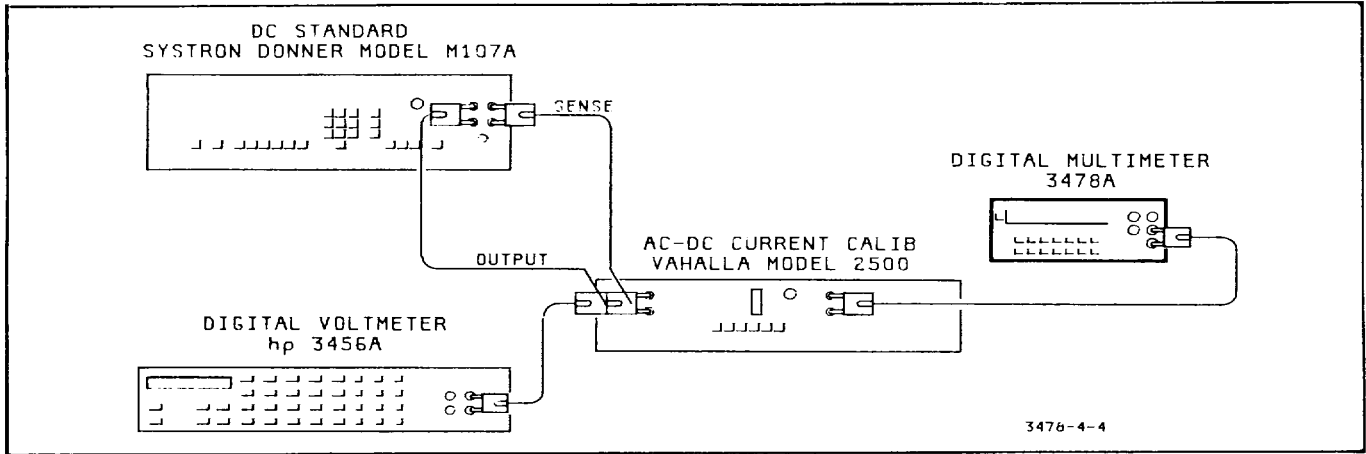

Figure 4-4. DC Current Accuracy Test and Calibration
- i. Connect the DC Volts Standard and Dig Voltmeter to the AC-DC Current Calibrator as she in Figure 4-4.